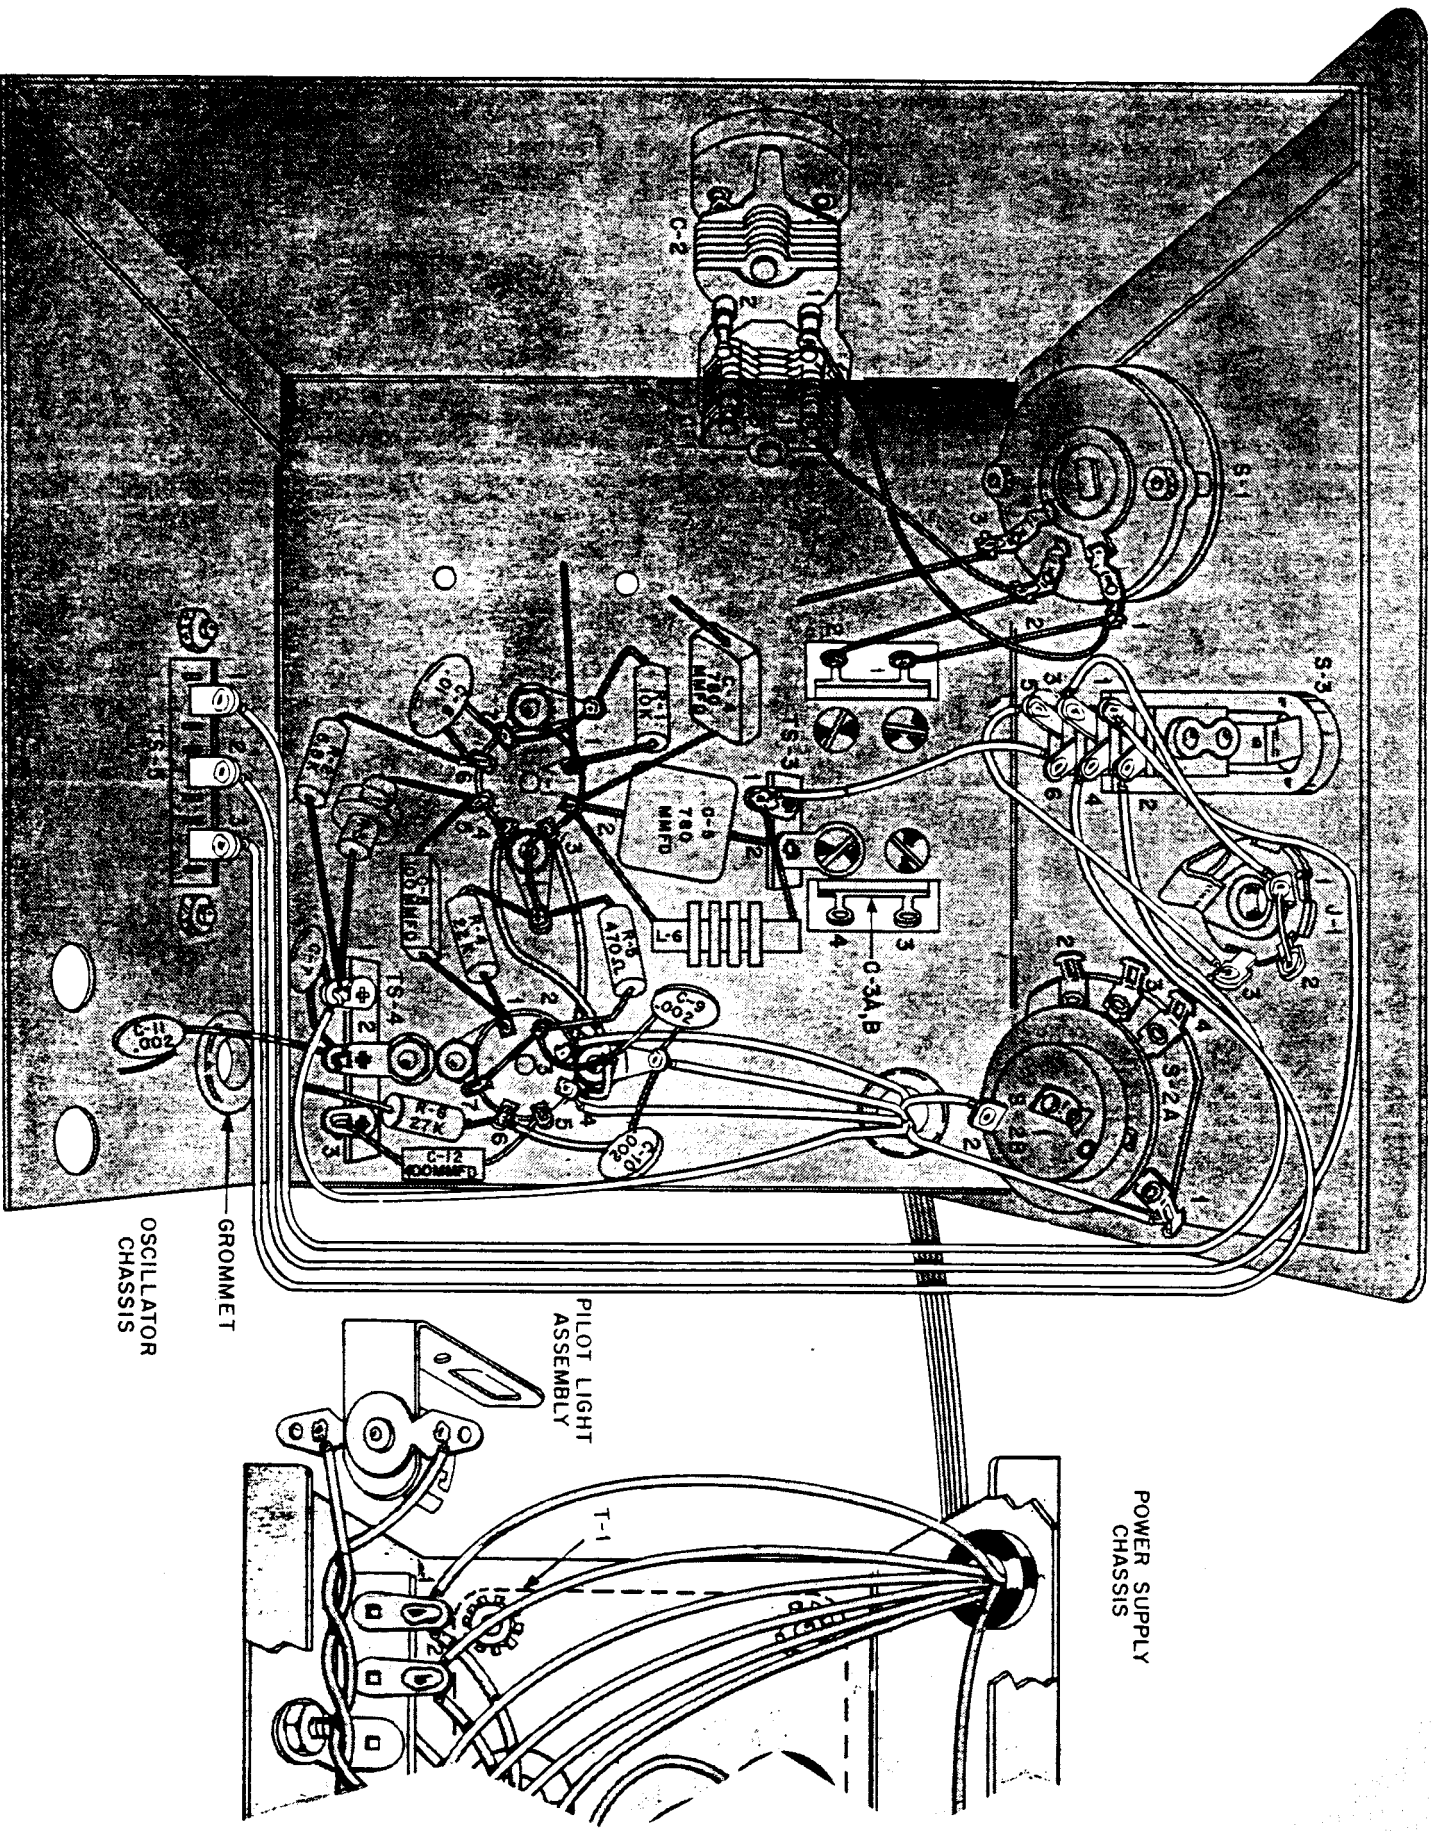

FIGURE 10. SECOND WIRING VIEW, OSCILLATOR CHASSIS AND WIRING BETWEEN THE POWER SUPPLY AND OSCILLATOR CHASSIS
SEE FIGURE 10.
- () Solder one end of a white-orange wire to terminal 3 of TS-5. Bring it over to the edge of the open side of the chassis, along the side of the chassis to the front, and across to S-3, as shown in Figure 10. Solder the other end to terminal 4 of S-3.
() Check all of the work against Figure 10.